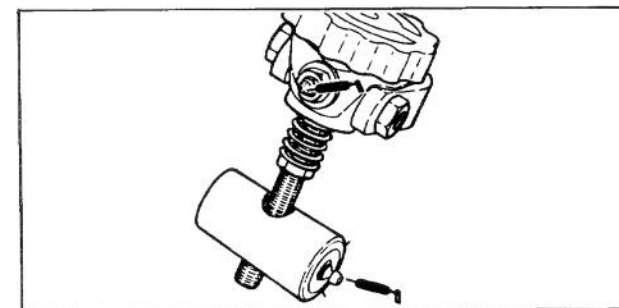
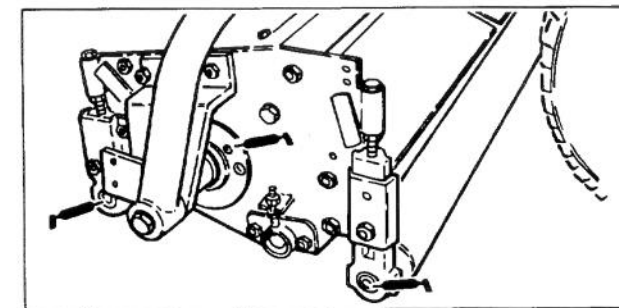

Figure 32
Figure 33
The cutting unit lubrication points are: Single point knob adjustment knob (2) (Fig. 32), reel flange bearing (2) (Fig. 33) and front and rear rollers (Fig. 33).